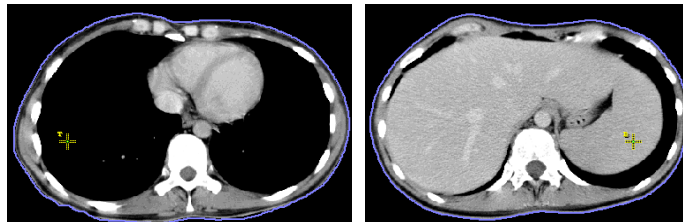

Figure 279 – Defining the top point and bottom point of the bolus
- The top point and the bottom point (the cursor is marked as **T** and **B** respectively) can be selected in any image in the current view. It is not necessary that these points are located on the contour line but simply in a view displaying the same image series (see Figure 279). The cursor will not be displayed as a green tick for **T** and **B**.